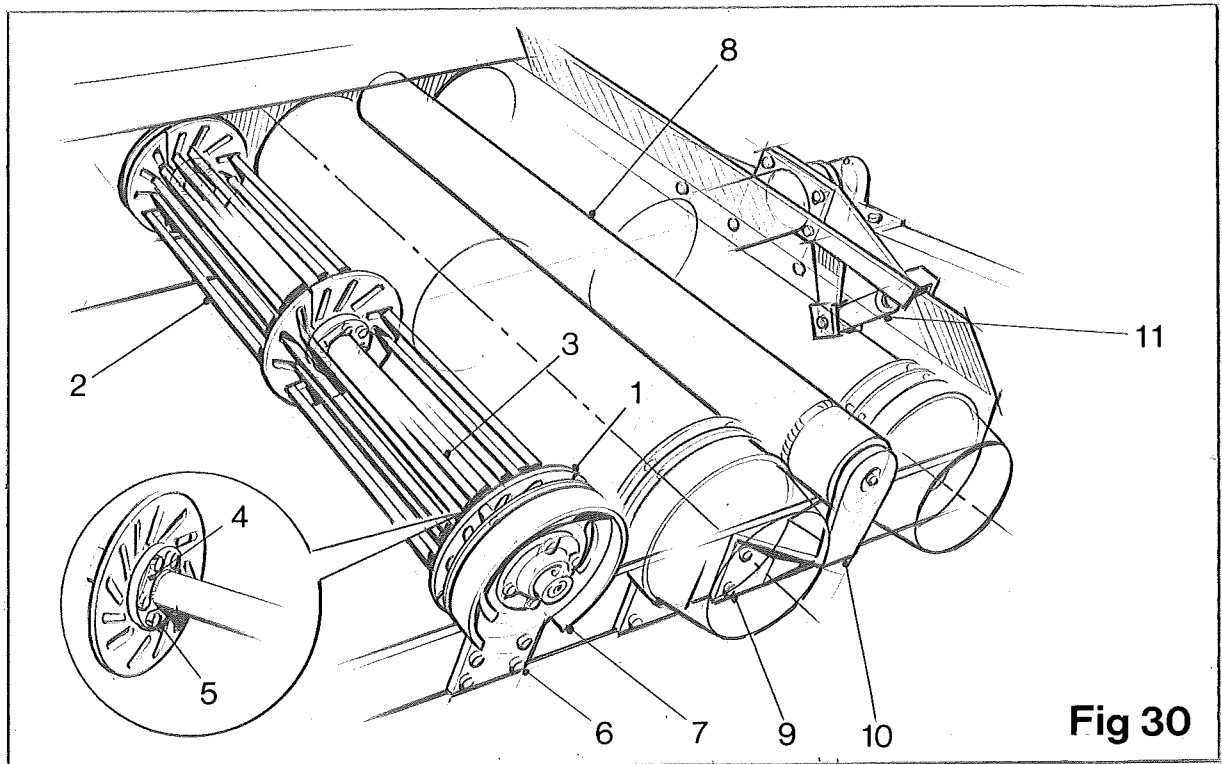

Fig 30
The rear centrifugal roller plates (item 1, fig 30) are not split. but they can be removed by following carefully this procedure:-
1. Remove the centrifugal rods (item 2, fig 30). (See previous text for Removal of Centrifugal Rods).
2. Support the lower end of the centrifugal roller shaft (item 3, fig 30). FAILURE TO DO SO COULD RESULT IN DAMAGE TO THE CLEANER DRIVES.
3. Open the locking tabs (item 4, fig 30) and remove the retaining bolts (item 5, fig 30).
4. Finally, remove the centre roller support plate (item 6, fig 30) by removing the four securing bolts (item 7, fig 30). Access is then gained to the centrifugal roller plate (item 1, fig 30).
The centre oscillating rollers (item 8, fig 30) are each fitted with a roller bearing and are removed by first removing the retaining bolts (item 9, fig 30) and the roller rear mounting plates (item 10, fig 30).
Provision is provided to vary the angle of the cleaner unit according to the amount of cleaning required. The rear of the cleaner should be raised to increase the cleaning and lowered to decrease. The variance of cleaning will be noticable on hilly ground and counteracted by the setting of the angle of the cleaner. It must be realised that if the cleaner unit is set to a flat position no cleaning will be achieved as the crop flow over the cleaner is part gravity. The angling of the cleaner is achieved by operating the hydraulic rams (item 11, fig 30) via the control box mounted in the tractor cab.